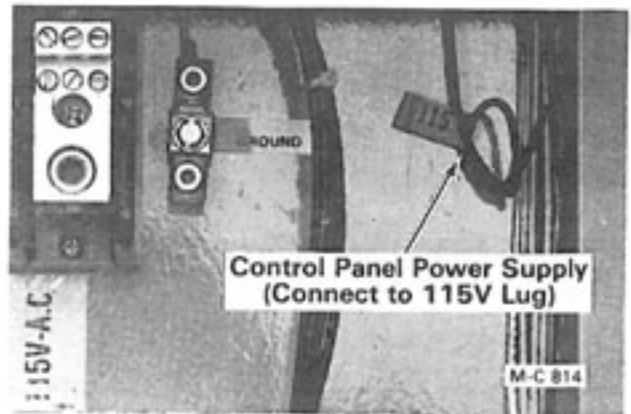

Figure 9
3. For this reason, the 115V power supply wire to the control cabinet was not connected to the splitter block at the factory. This is a loose black wire close to the splitter block with an orange tag on it that reads "115 VOLTS," see Figure 9. Connect this wire to one of the 115 volt lugs.